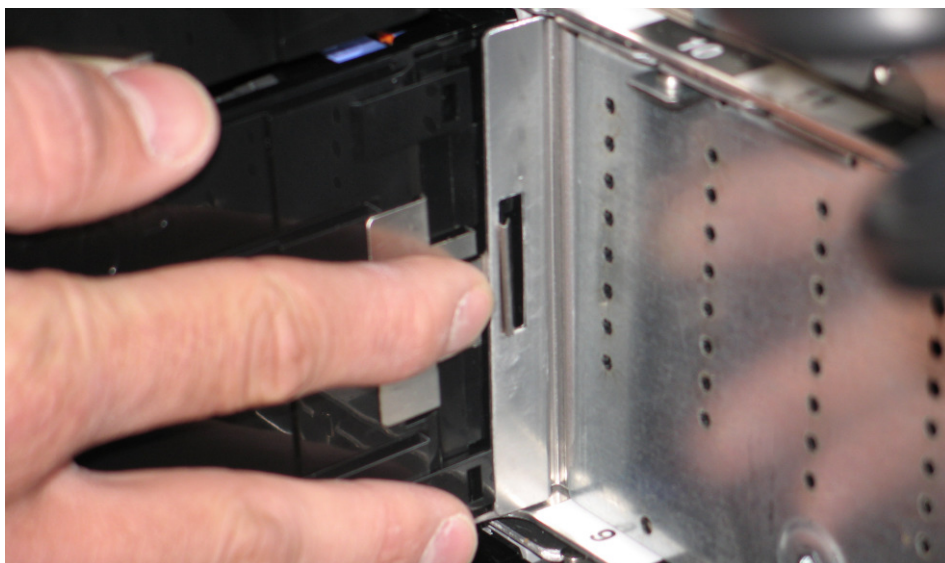

Figure 15 OBE Sidewall Assembly
STEP 28 Pull the OBE handle/sidewall assembly slightly outward to separate it from the CEC drawer. See Figure 15. Take care not to bump the frame faces of the fiber optic connectors against any surface, including body parts, to prevent contamination or damage on the fiber endfaces. NOTE: Do not remove more than one CEC drawer per OBE at a time - the OBE must be supported by at least 3 CEC drawers while it is installed in the system.